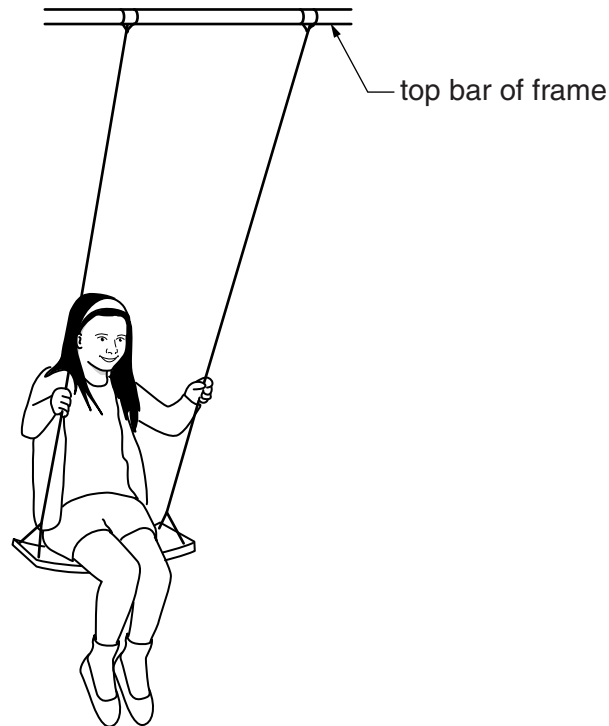

Fig. 8
- 8 Fig. 8 shows an incomplete idea for a child's swing. The frame for the swing will be 1